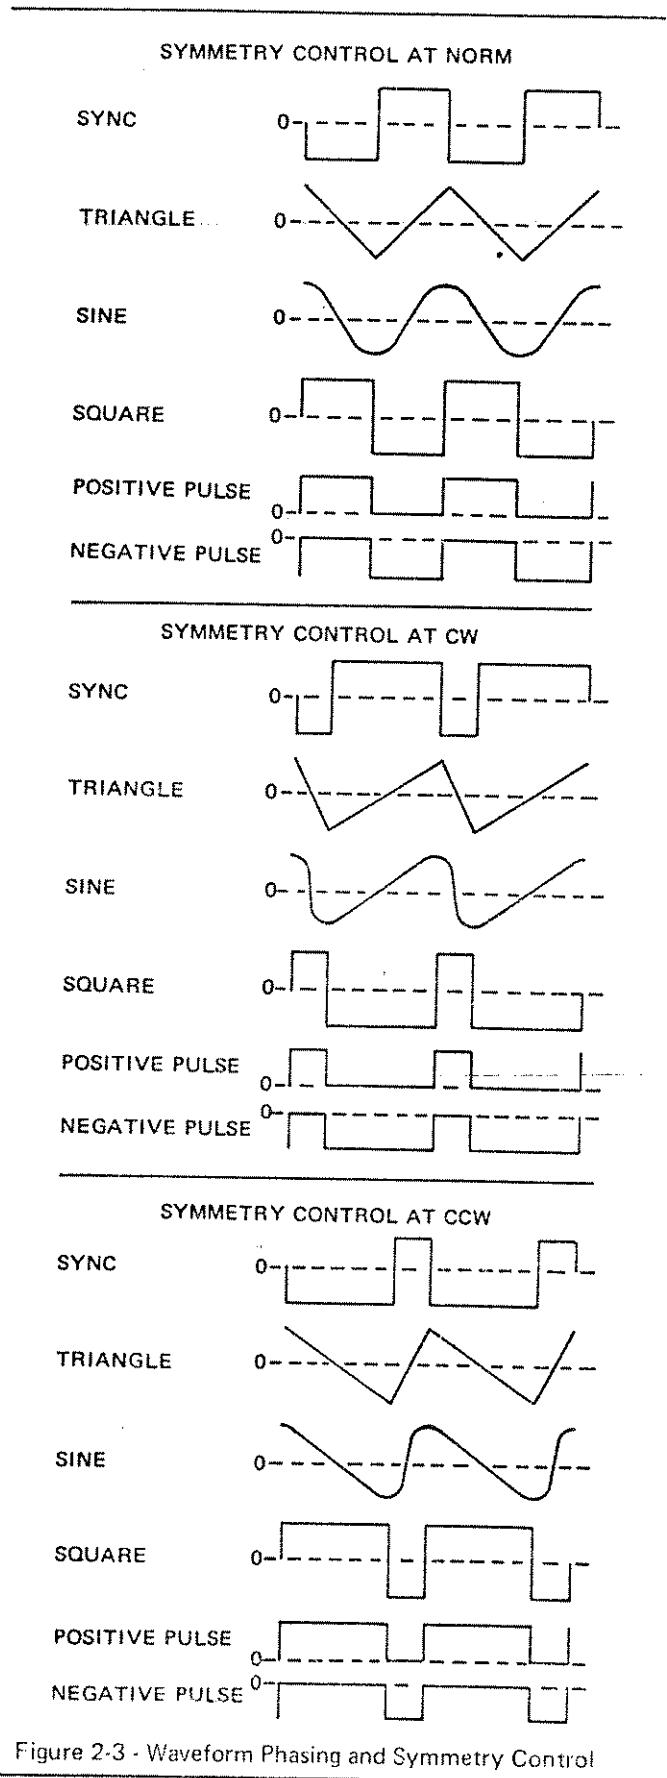

Figure 2-3 - Waveform Phasing and Symmetry Control
2. **Frequency Dial** — This is the main frequency control. The setting on this dial multiplied by the frequency range setting (above) equals the output frequency of the generator. The frequency vernier (3) and the symmetry control (11) also affect the generator frequency. Note their effect in the listing below.
6. **Amplitude Vernier** — A vernier control of the output amplitude. Maximum clockwise position gives the full output amplitude of 30 V peak-to-peak into an open circuit or 15 V p-p into a 50Ω load, except positive and negative pulse which are 7.5 V zero-peak amplitude into 50Ω load. Counter-clockwise rotation will continuously reduce the output amplitude. The control gives a minimum of 20 dB variation (10:1). This control operates in conjunction with the output attenuator (9). For maximum amplitude output this vernier must be full clockwise and the output attenuator in the "0 dB" position.
7. **Sync Out** — This output provides a square or rectangular output at the same frequency of the main generator. The output amplitude is approximately 2 V p-p into 50Ω. The phase relationship between the sync output and the waveforms from the 50Ω output is as shown in Figure 2-3
9. **Output Attenuator** — Attenuates the output from 0 dB (15 V p-p 50Ω max) to -60 dB (15 mV p-p into 50Ω) in six, 10 dB steps. The vernier (6) adds an additional -20 dB, thus, a maximum of -80 dB (1.5 mV p-p into 50Ω).
8. Set SYMMETRY switch/control for desired symmetry or dissymmetry. The symmetry control can be used to develop ramp waveforms with variable rise fall ratios and pulse trains with variable duty cycle. By using the sine wave with dissymmetry, controllable sine distortion can be developed. Figure 2-3 shows the effect of this control on output waveforms.